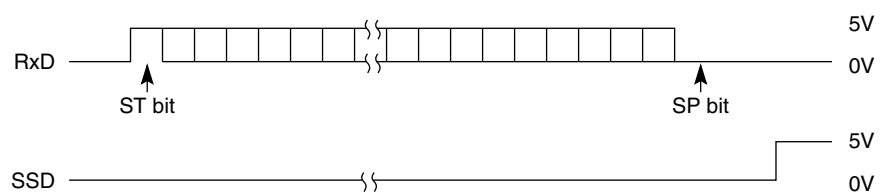

Figure B-7
• Yes Is the RxD of Q3 as specified in Figure B-7?
- ② In receiving by serial interface, printing data is omitted or printing operation is not performed.
• Are RxD and SSD of Q3 as specified in Figure B-7?